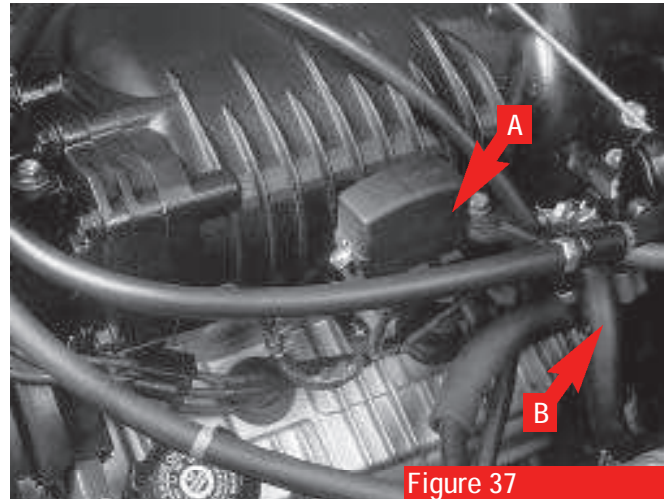

Figure 37
12. Install the diagnostic plug bracket and the ground connector to the driver's side of the supercharger. Install the diagnostic plug **(see arrow A, figure 37)**.
13. Install the fuel return line bracket to the driver's side of the manifold **(see arrow B, figure 37)**.